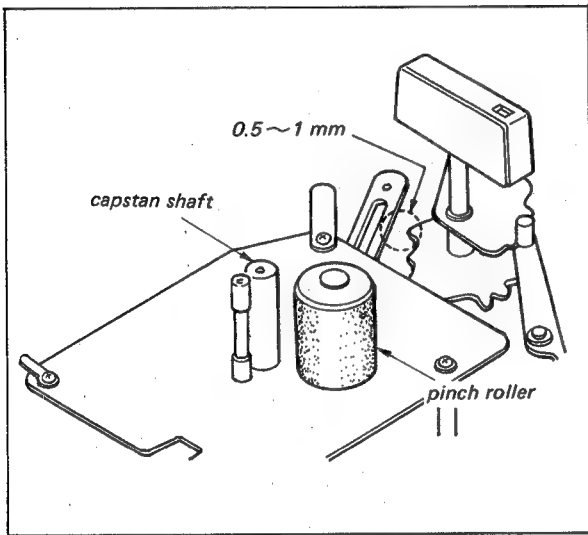

Fig. 4-30. Capstan deck adjustment
1. Set the function lever to FORWARD. Check that the clearance between the pinch lever and the function selector cam is 0.5 to 1 mm. If necessary, readjust the position of the capstan deck ass'y. See Fig. 4-30.